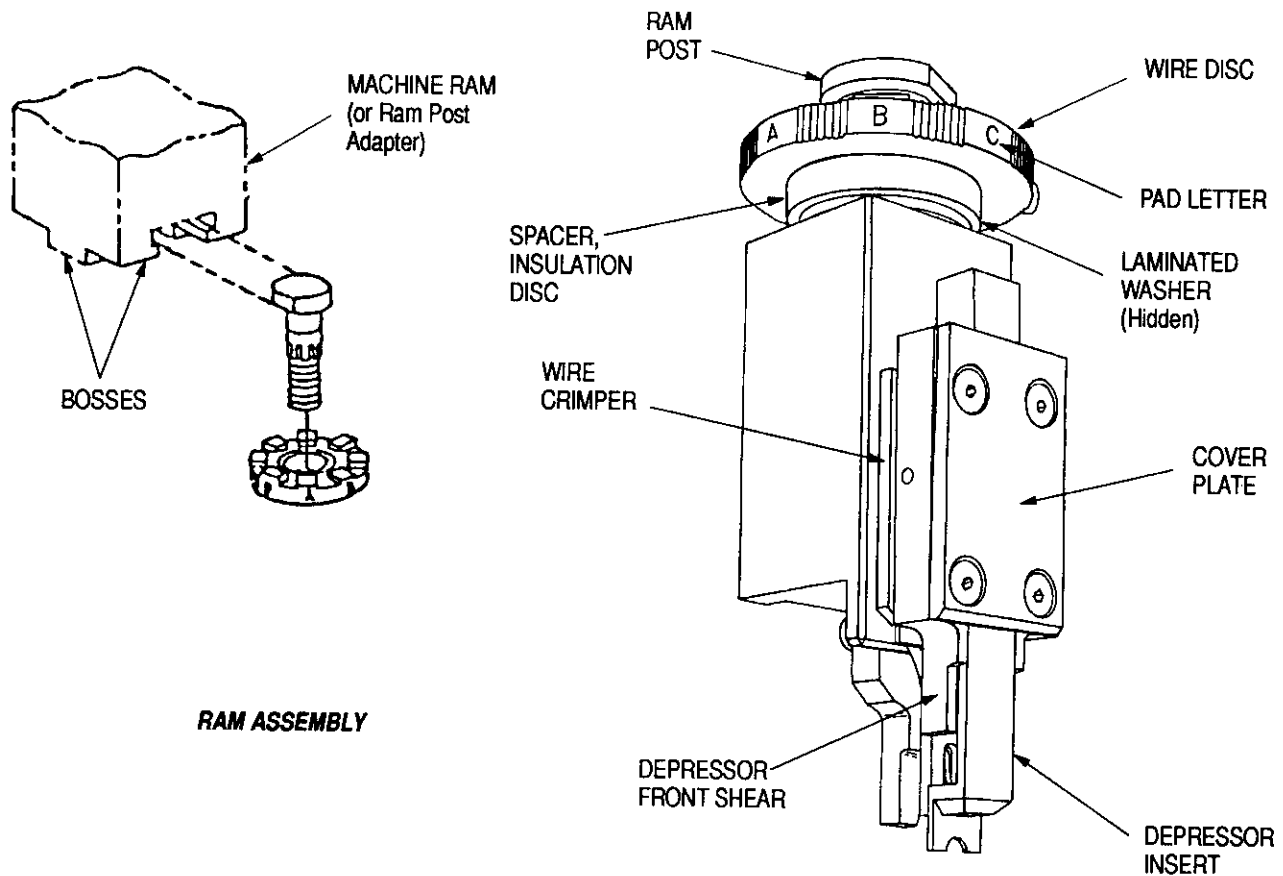

Figure 3
The main components of the applicators are identified in Figures 1 and 2. The ram assembly is shown in detail in Figure 3.
with the two bosses on the ram post adapter (see Figure 3) to change the length of stroke of the wire crimper over the anvil.
2. Turn wire disc to line up selected pad letter with bosses on machine ram, (or ram post adapter). See Figure 3. This provides the proper crimp height for that wire size.